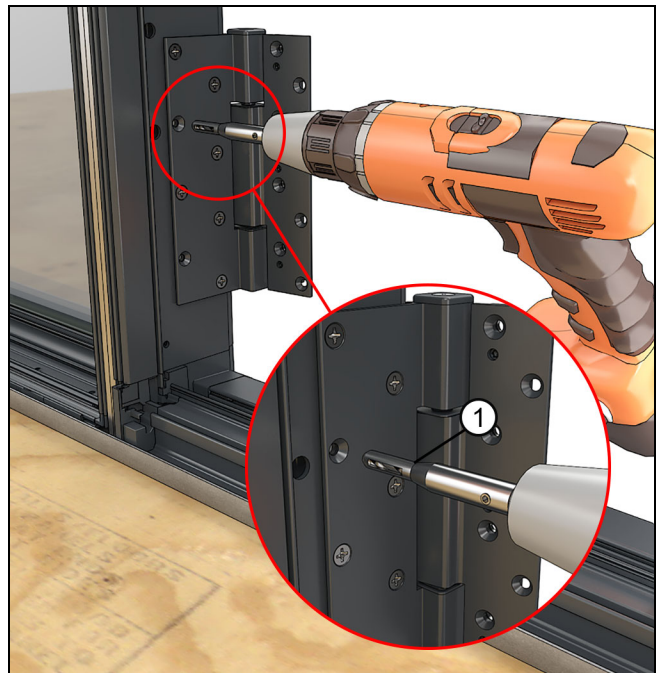

Figure 29
10. Using the hardware holes in the frame as a guide, drill holes into the aluminum mullin pin. Start with a #2 centering bit first and then follow up with the recommended drill bit. See Figure 29. See the table below for the correct drill bit and location details.